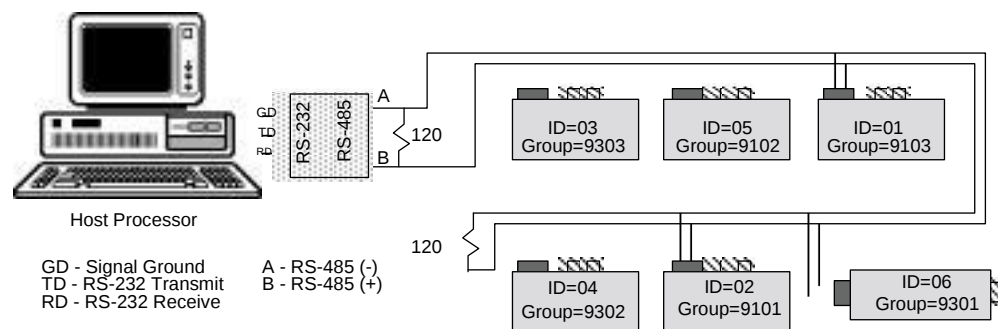

Figure 4.21—RS-485 PPT Multidrop Network
A PPT multidrop network connection of six units is shown in Figure 4.21. In this network, the device IDs are not in order from one end of the network to the other. Looking at all the units on the bus, the device IDs are sequential beginning with ID=01 and without duplication. This is an important setup condition if global commands (*99) are desired.
Assign Group Numbers: Once the device IDs are set the group IDs can be assigned. Each unit in the same group must have a sequential sub-address - beginning with 01. The sub-address tells each unit what order it should respond in a group addressed command. To set the group (91) and sub-address (01) for device ID=02, send the following commands: ***02WE**, ***02ID=9101**, ***02WE**, ***02SP=ALL**. Now when a command is sent to group 91, device ID=02 will be the first one to reply. In Figure 4.21, there are two address groups, 91 and 93; each have 3 PPT units assigned.
When a RS-485 multidrop network has all device IDs properly assigned (Figure 4.21), then global addressed commands can seek replies from all units without conflict. The **TO=N** and **TO=P** commands instruct the units how to reply in this situation. When **TO=N** command is set, each PPT will respond in sequence beginning with ID=01, one right after another. It is important that during this response sequence the host processor, or user, not transmit on the bus until the last unit has finished its message. A carriage return (<cr>) sent during the response sequence will cause the next unit ID to send its response even though the previous unit ID is still transmitting.